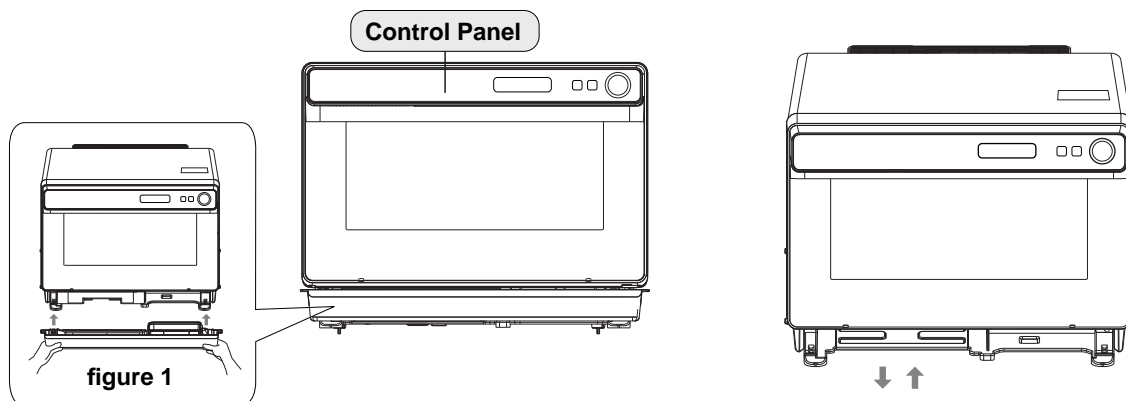

figure 1
1. Take drip tray out from package and insert it to oven legs according to figure 1.